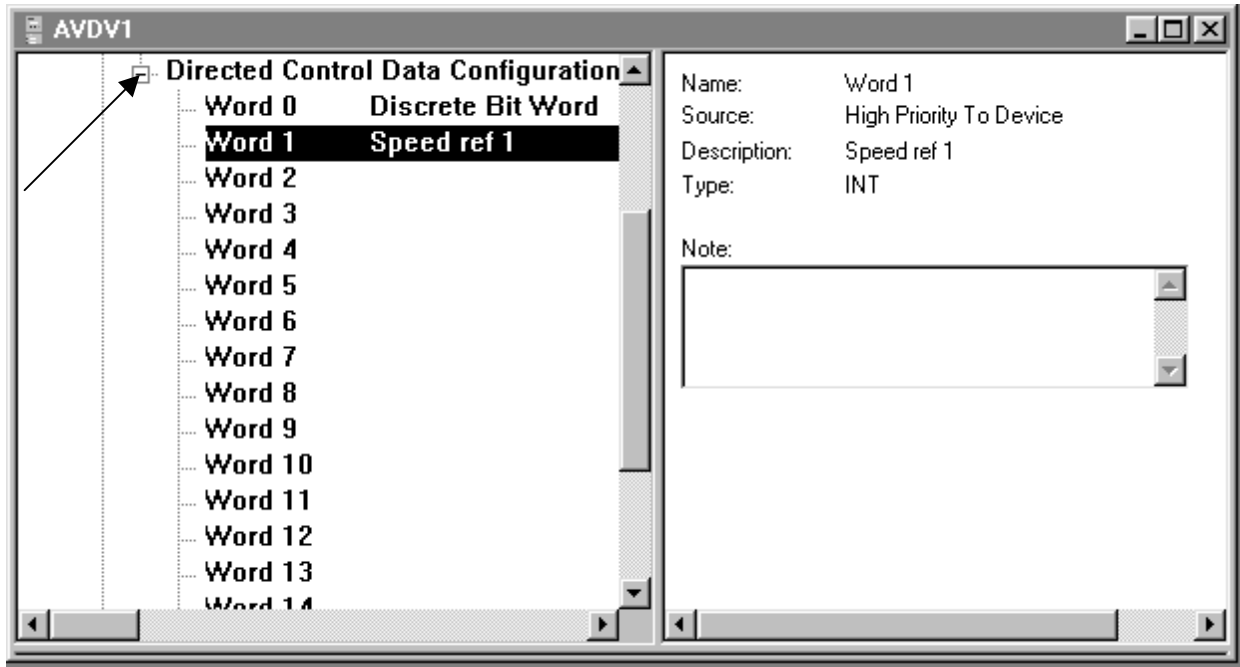

Figure 3.15
14. Figure 3.15 depicts the status of Word 1. To **exit** out of the **Directed Control Data Configuration**, click on the Collapse Box in front of **Directed Control Data Configuration**.